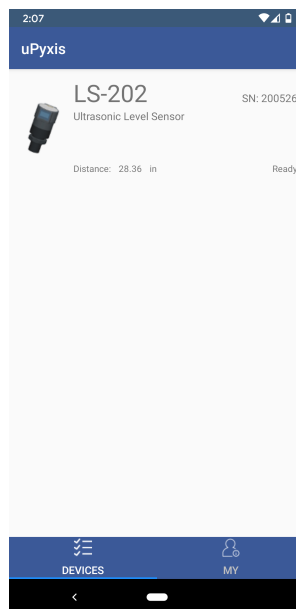

Figure 13.
4. If the connection is successful, the LS-202 and its Serial Number (SN) will be displayed (Figure 13).